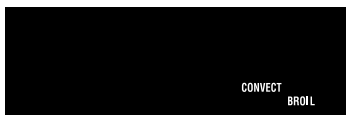

Fig. 1
1. Press convect key 3 times*.	convect 3 times
2. Press start (See Fig. 1).	start